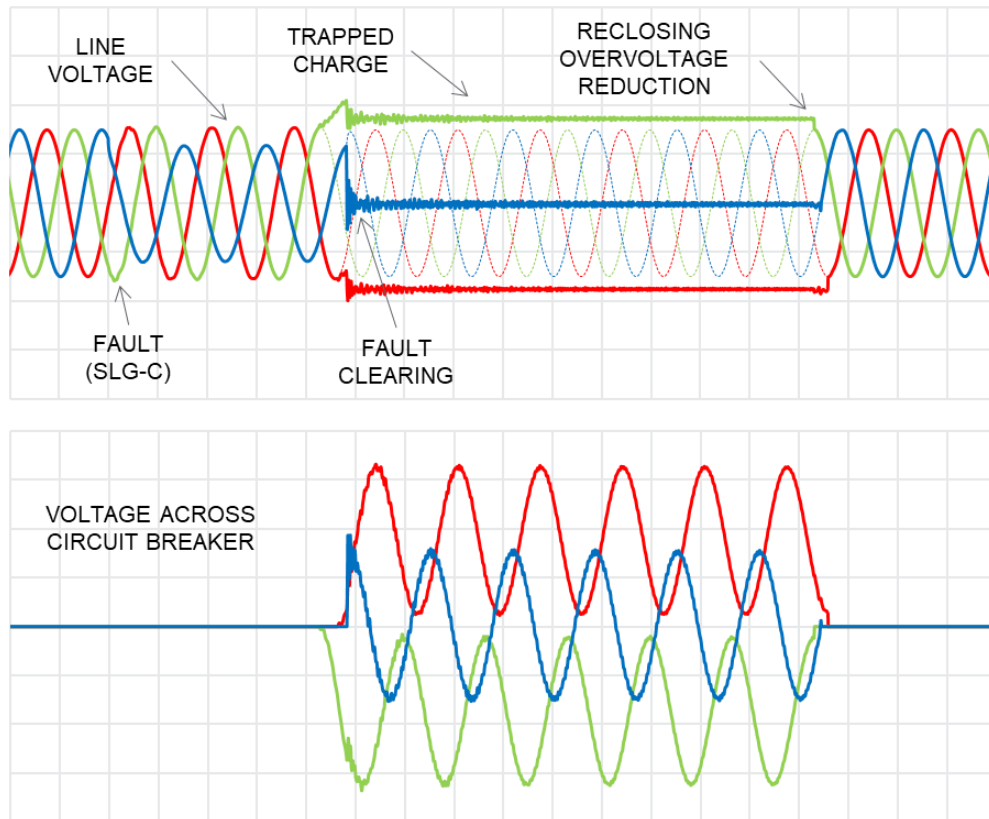

Figure 205: Uncompensated transmission lines fitted with CVT voltages waveforms (fault on blue phase)
- The line is fitted with Capacitive type Voltage Transformers (CVT) (Figure 205), conventional or not, which doesn't discharge the line.